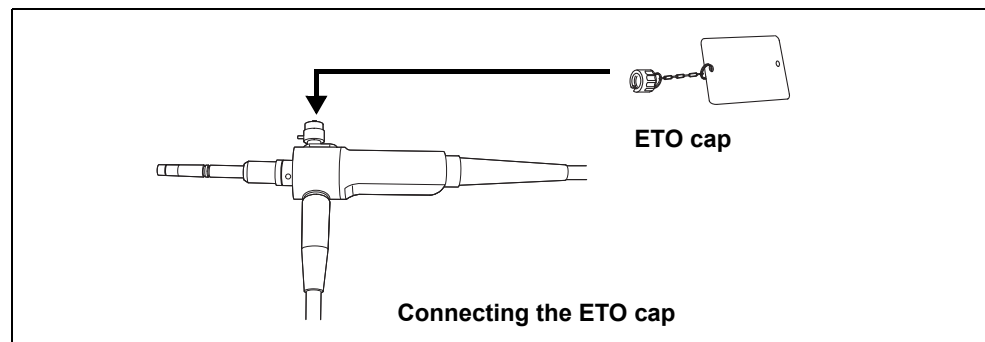

Figure 3.1
- When performing V-PRO[®] maX sterilization, the ETO cap (MB-156) must be attached to the venting connector in order to avoid rupture of the bending section. (See Figure 3.1)